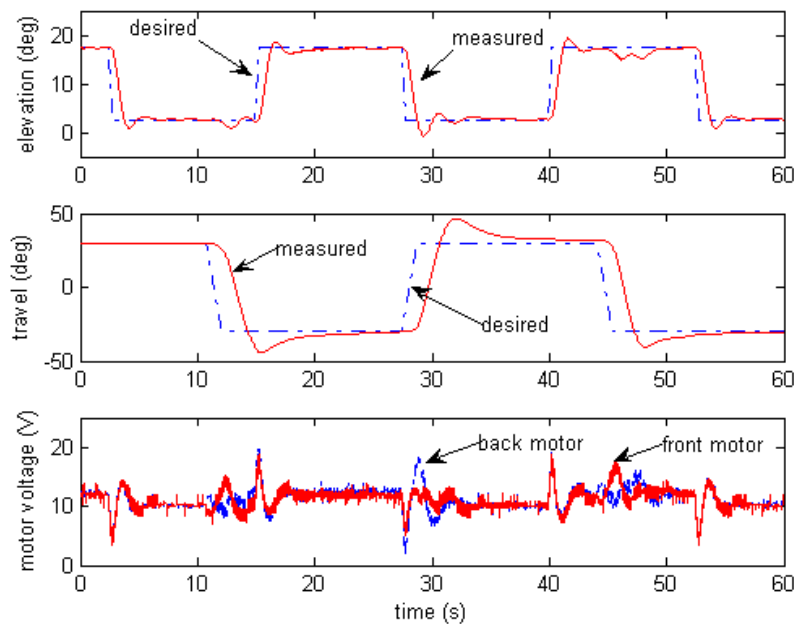

Figure 5.4: Typical closed-loop response of 3 DOF Helicopter system.
16. In the *Vm (V)* scope, the green line is the front motor voltage and the red trace is the back motor voltage. These should be within $\pm 25V$ and not go negative very often.
17. Figure 5.4 below is a sample closed-loop position response of the 3 DOF Helicopter when commanding an elevation step of ± 7.5 degrees at 0.04 Hz and a travel step ± 30 degrees at 0.03 Hz.